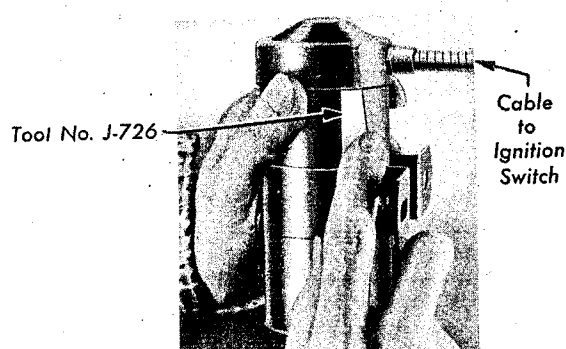

Fig. 51 Removing Coil Top Cover
4. Insert Tool J-726 between coil body and cover as shown in Plate 41, Fig. 51. Revolve coil clockwise and cover counter-clockwise and remove cover.